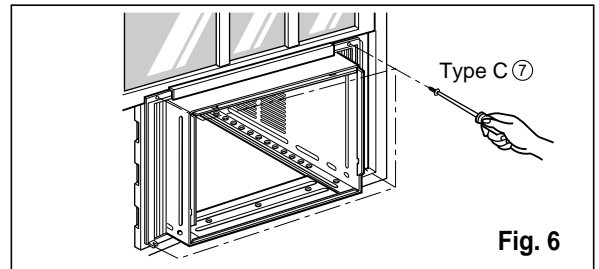

Fig. 6
7. Attach the cabinet to the window sill by driving the screws ⑥ (Type B) through the front angle into window sill.
9. Attach each Frame curtain to the window sash using screws ⑦ (Type C). (See Fig. 6)